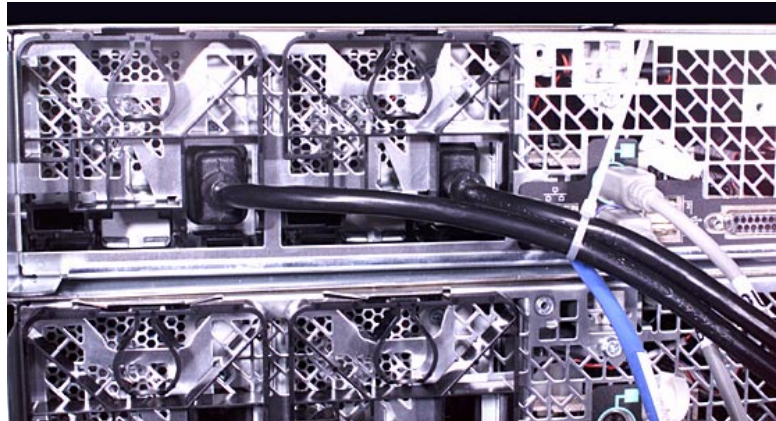

Figure 3. Tying the Power Cables Together
1. Pull the power cables to the right and tie them together with a cable tie (see Figure 3).